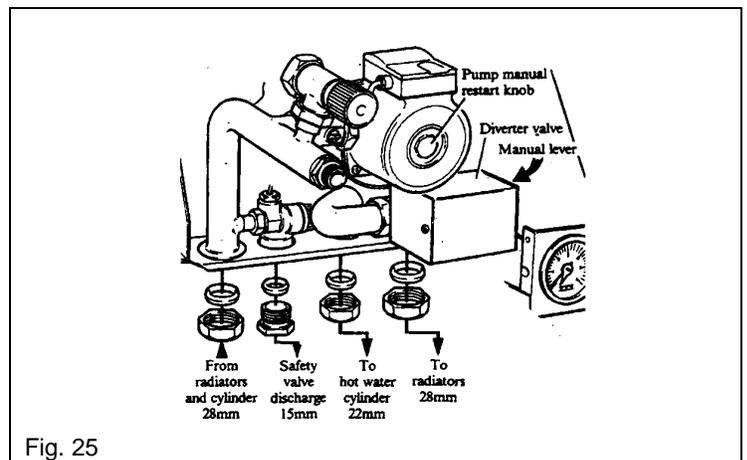

Fig. 25
Refer to Fig. 25.
**Note:** If the programmer kit has been fitted it will be necessary to connect the programmer wiring harness to the rear of the programmer and to the 6-way socket on the left hand side of the control box, see Fig. 25, as the bottom panel assembly is slid into position.